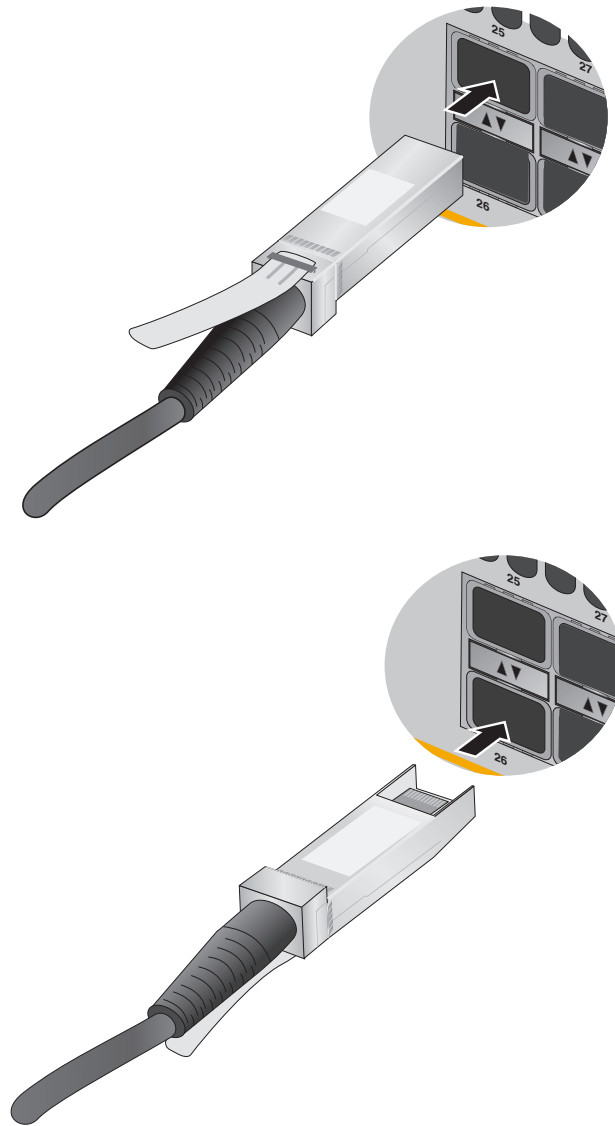

Figure 80. Installing SP10TW Cables
3. To install the transceiver in a port in the top row, position the transceiver with the Allied Telesis label facing up. To install the transceiver in a port in the bottom row, position the transceiver with the label facing down. Refer to Figure 80.